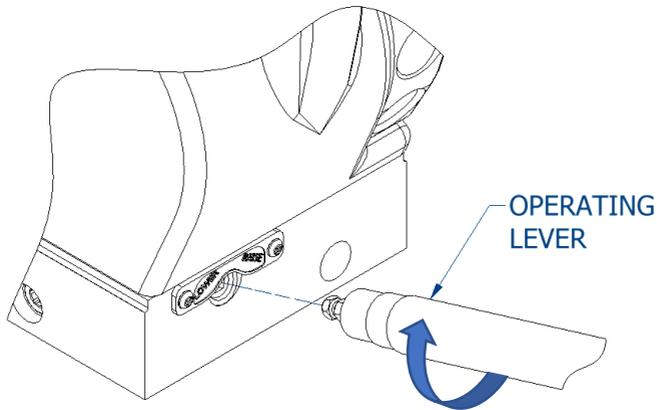

Figure 6 - Tightening the Release Valve Screw
**Always** close the release valve, to ready the jack for the next operation (see Figure 6).